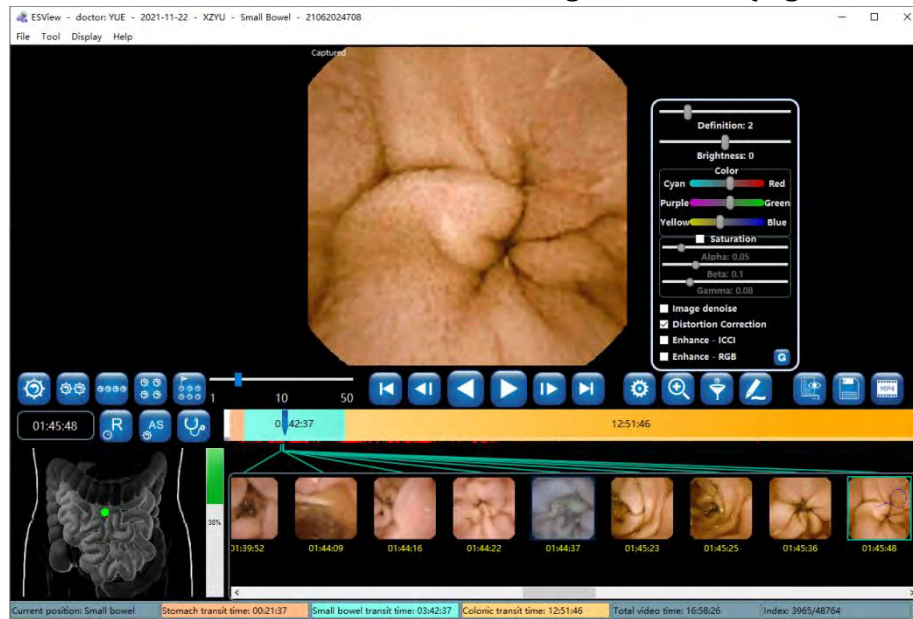

Figure 4-33: Distortion Correction
3. Check the “Distortion Correction” box to correct image distortion (Figure 4-33).